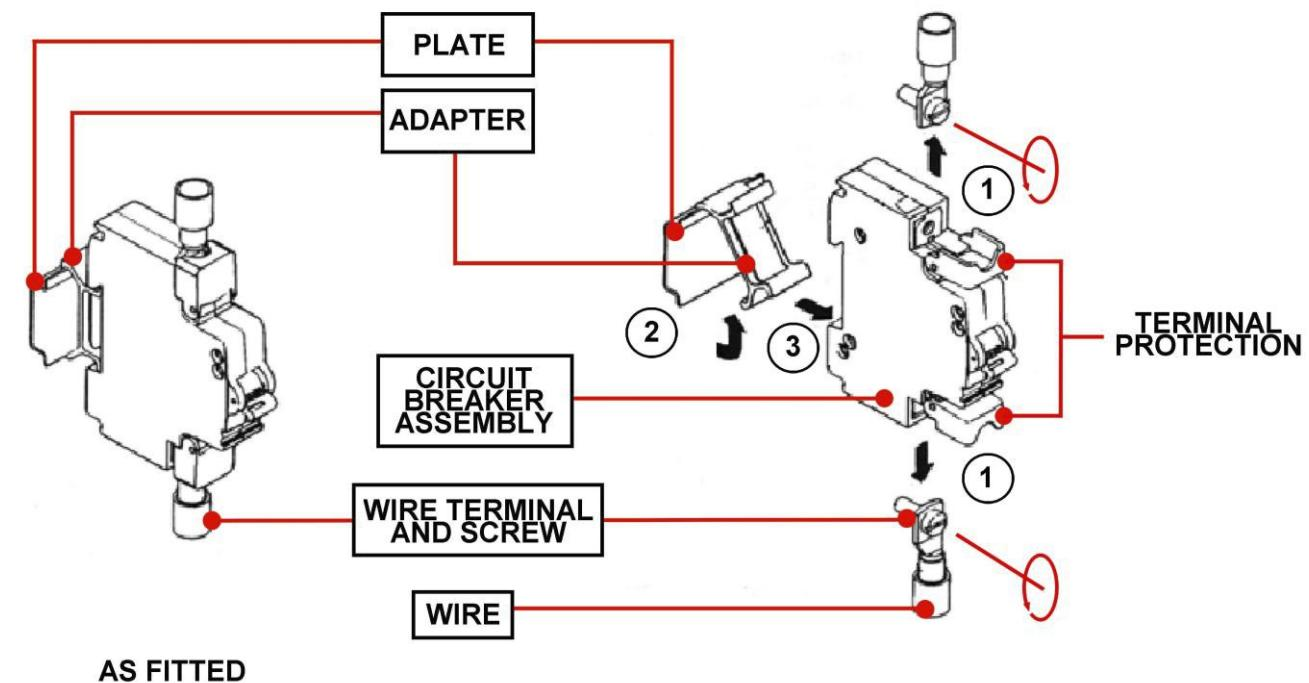

FIGURE 4 - LV LOCKER -10F02 CB REMOVAL
- 5 Remove and discard the Circuit Breaker according to the Instructions provided in the following figure 4